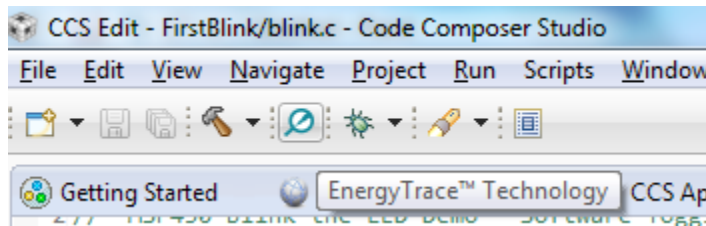

**Figure 4-2. EnergyTrace Button in the Toolbar Menu**
2. Press the EnergyTrace Technology button in the toolbar menu (see Figure 4-2). You don't need to build or start debug session.